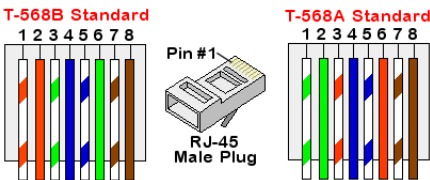

Figure 15: Standard cable wiring
- c. Insert the eight wires into an RJ45 connector, as described in *Figure 15*
7. For the switch/ router side, use a pre-crimped cable or use a crimper to prepare an RJ45 communication connector: Insert the eight wires into the RJ45 connector in the same order as above (*Figure 15*).